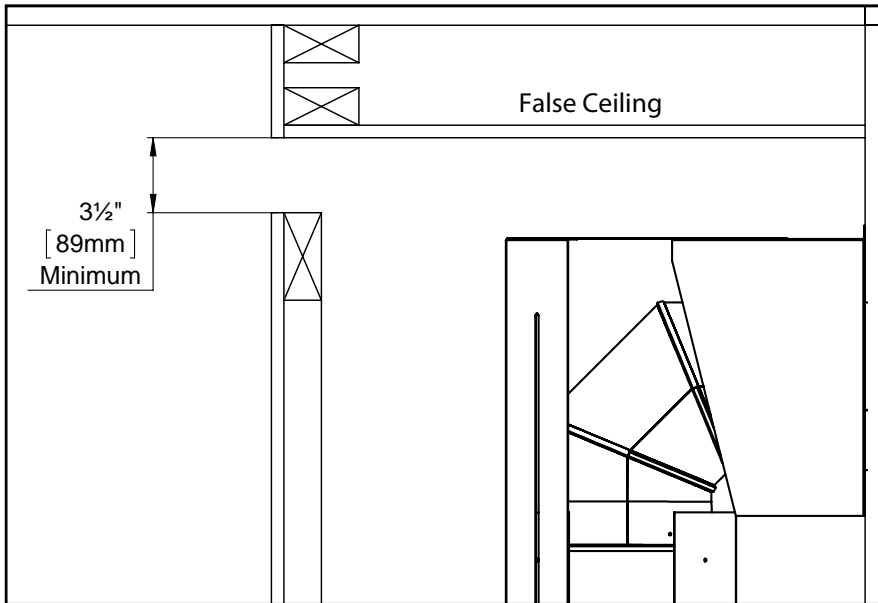
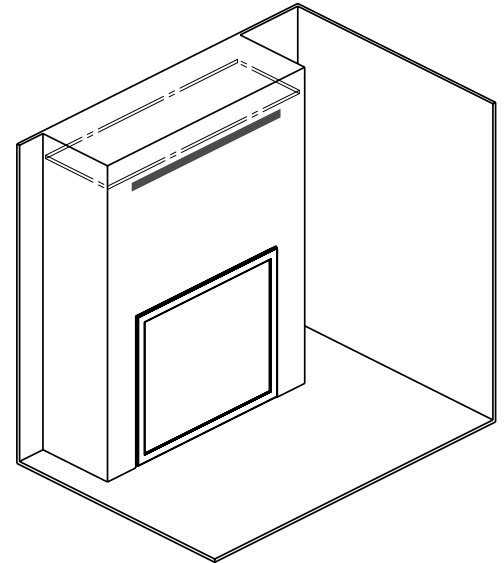

Figure 46: False Ceiling
Figure 47: False Ceiling Iso View
**Optional: False Ceiling** - If your ceiling dimension is greater than the minimum (figure 47) You may want the CSS Air discharge lower on the wall. To do this a false ceiling is required to properly evacuate the heat from the chase (figure 46).